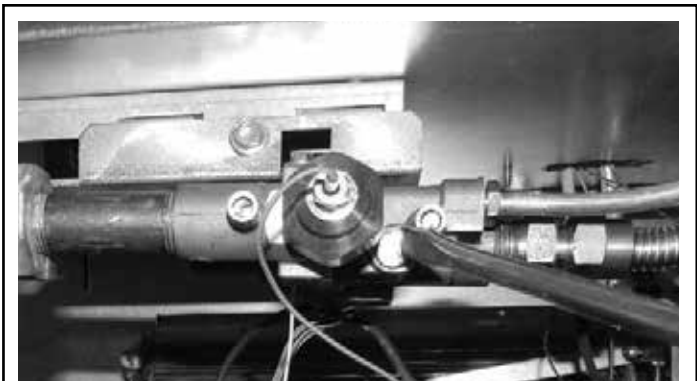

Figure 3
Step 2. Remove Burner assembly and replace the main burner orifice supplied in this kit. Refer to *Table 5 on Page 5* for verification of proper main burner orifice size supplied in kit. **Step 3.** Remove the low-rate orifice from the valve and replace with the low rate orifice supplied in kit. See *Figure 3*.